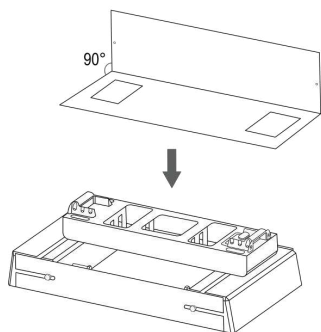
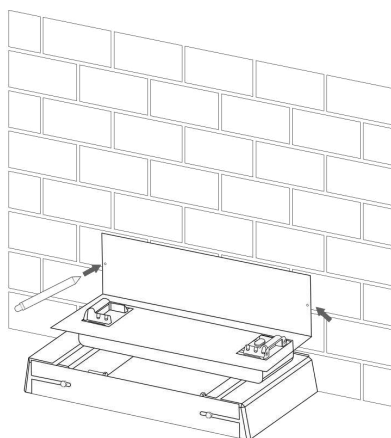

Figure.1
Figure.2
3. Place the auxiliary measurement tool over the base and mark positions of two assembly holes (Figure.1&Figure.2). Drill holes ($\Phi=8\text{mm}$) on the wall using an impact drill(Figure.3). **After each battery pack is put in place, locate and drill holes in the same way.**